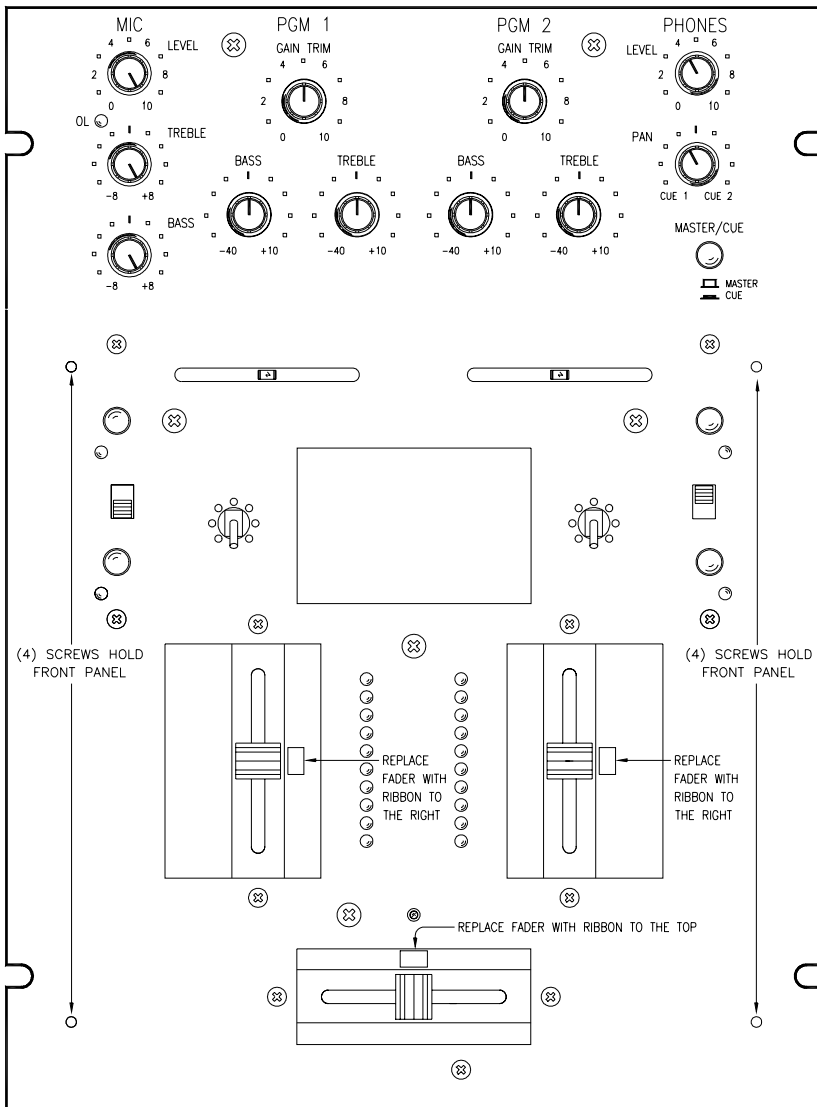

Figure 4. Phono/Line switch rotation or replacement
⑥ **HAMSTER** switches are provided for **PGM 1** and **PGM 2 Program Faders**. These switches reverse the operation of the adjacent **Program Fader**. When engaged, signal is *off* with the **Program Fader up**, and *maximum* with the **Program Fader down**.
⑦ **PHONO / LINE** source select switches are provided for **PGM 1** and **PGM 2**. These are “clickless” switches suitable for “transform scratch” applications. The switches are field replaceable and may be rotated in 45° increments. See Figure 4 on page Manual-6 for rotation and replacement instructions.
⑧ **Program Fader** controls for **PGM 1** and **PGM 2** are ultra low noise, long-life, monorail devices. An *ActiveFader™* design completely isolates the control element from the audio, providing the highest reliability and performance. See page Manual-6 for cleaning and replacement instructions.
⑨ **PGM 1** and **PGM 2 Meters** provide true L+R Dual Mono indication of **Post-Program Fader** signal levels. Ten segment resolution is provided with a one second peak hold indication. With the Program Fader set to maximum, the input **GAIN TRIM** should be set to indicate an average level of about +4.
⑩ **Crossfader** control is implemented using Ranes’ proprietary *ActiveFader™* design. As with the **Program Faders**, all audio is isolated from the control element, greatly extending the life and performance of the control. See page Manual-6 for cleaning and replacement instructions.